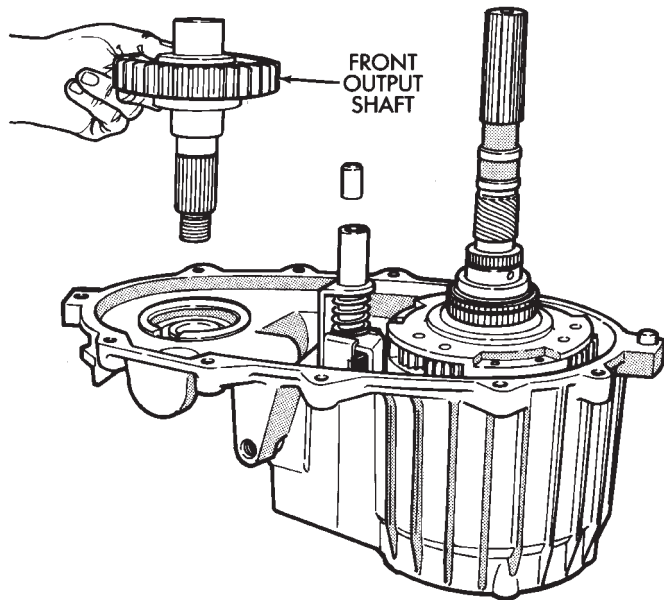

Fig. 24 Removing Front Output Shaft
- (3) Remove front output shaft (Fig. 24).